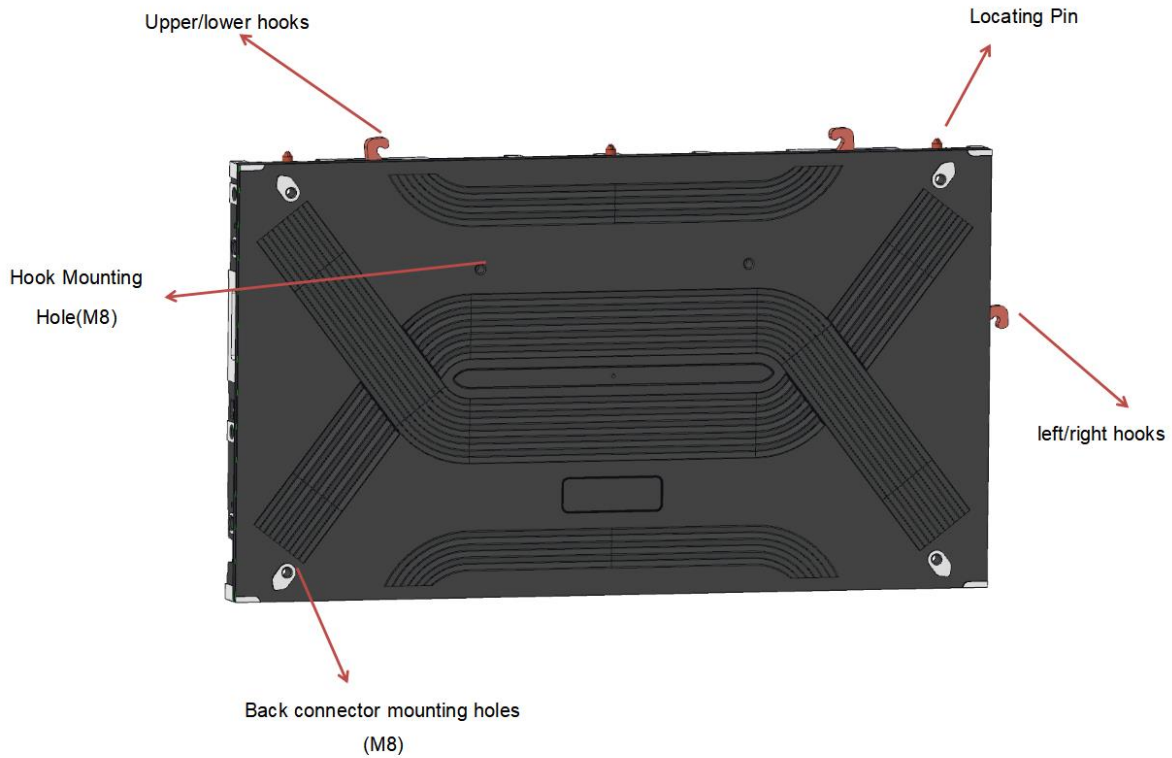

Figure 10
2. Install the Hook Plates on the column (see Figure 10).
- b. Use two M8x25 Hex-head bolts and flat metal washers (A) to mount the Hook Plates (B) to the identified Panels. Tighten to fit.